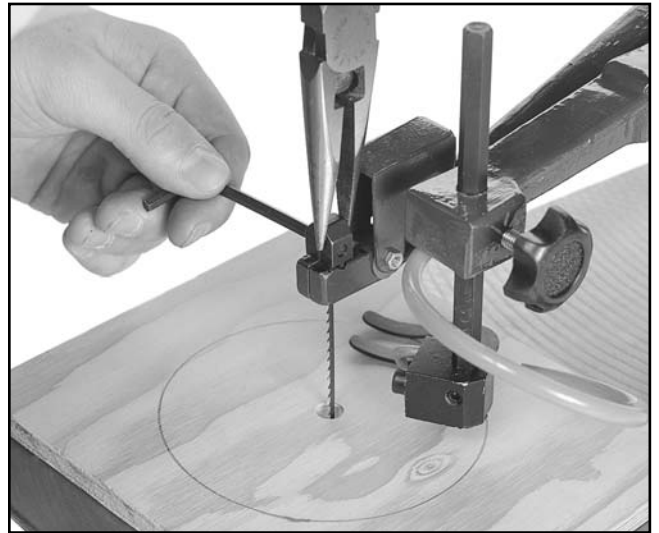

Figure 13.
6. Secure the Blade in the Chuck. This will require an Allen wrench and a pair of pliers. **Figure 13.**